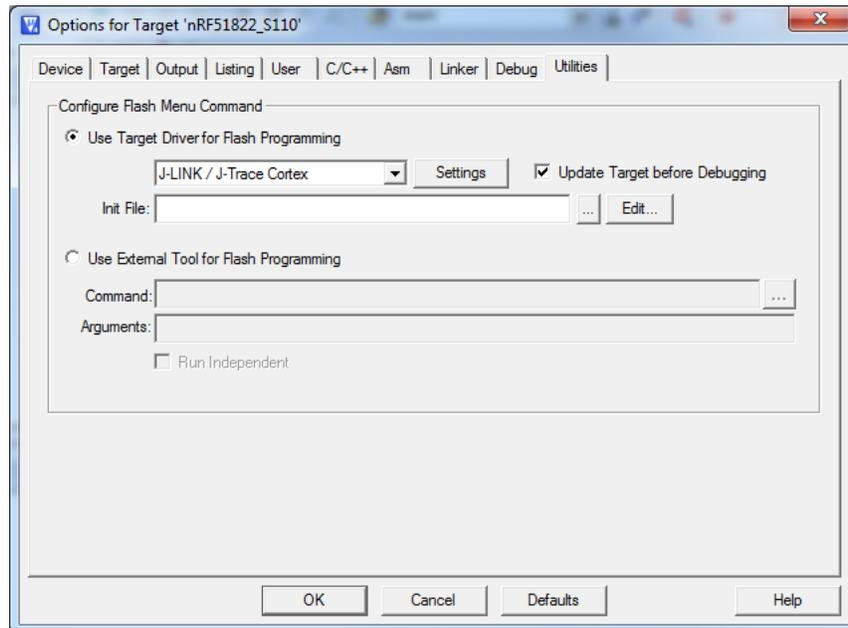

Figure 27 Debugger selection
9. Choose the available debugger from the list as shown in *Figure 27*.